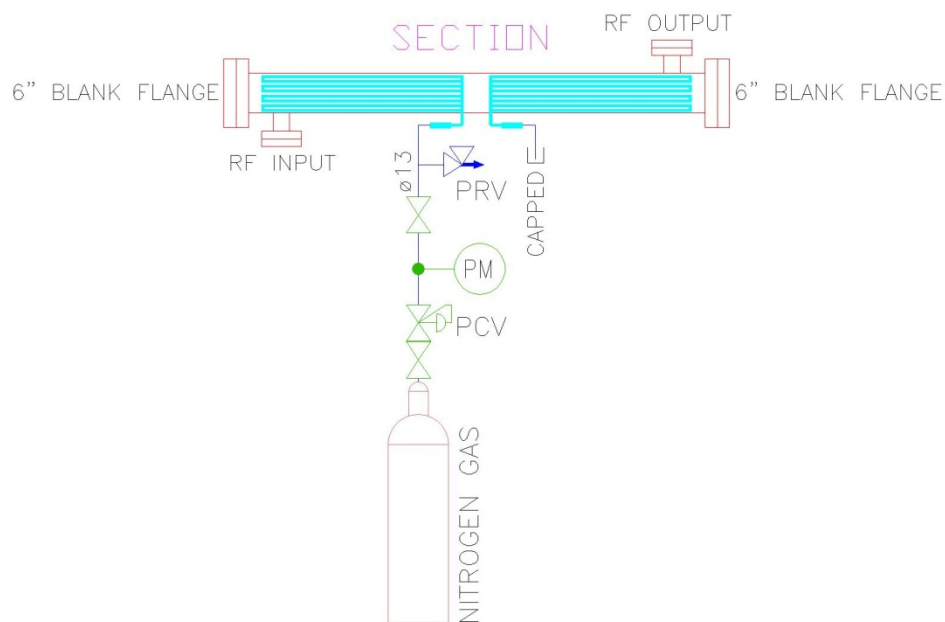

Figure 1. Leak Test Schematic
- Assembly the test system as the Leak Test Schematic shown in the Figure 1;